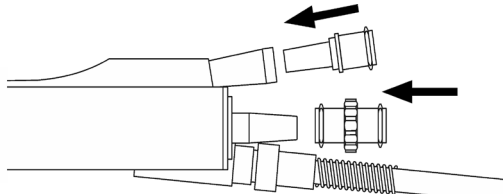

Fig. 6
- Assemble the cleaning adapter G-31028 (aspirating connector) and G-31029 (irrigating connector) at the ultrasonic handpiece (fig. 6).
- After cleaning and disinfection remove the cleaning adapters in reverse order (see fig. 6).